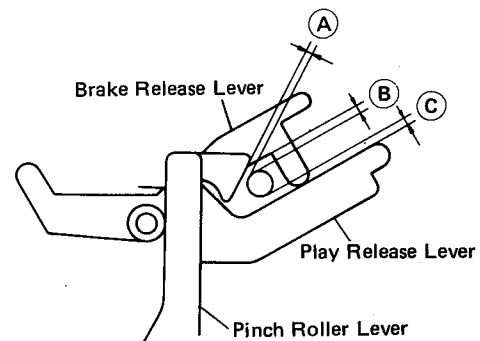

Figure 11-3
Place the set in play mode, and see that the pinch roller lever moves to create the gaps (A), (B) and (C) as shown in Fig. 11-3.